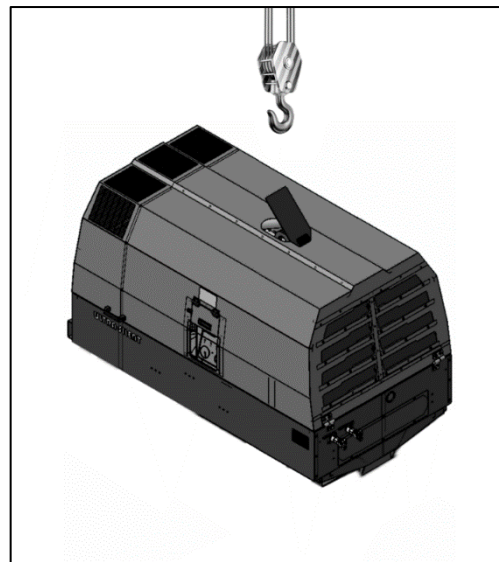

Figure 6.2-1
- 3) Attach the hook of the lifting device to the hooking point of the compressor (Figure 6.2-1).